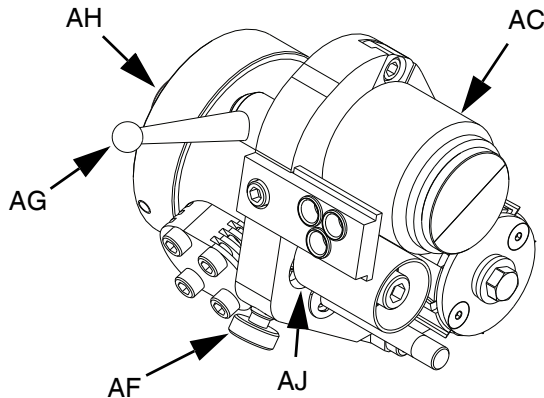

FIG. 4
4. With the trigger lock engaged, rotate the cutter motor (AH) clockwise to decrease speed. See FIG. 4. If necessary, rotate counter-clockwise to increase speed.
3. With the trigger lock engaged, rotate the cutter motor (AH): clockwise to decrease speed, counter-clockwise to increase speed. See FIG. 4.
2. Disengage the tension lockdown (AG) by pushing towards the front of the gun.
3. Turn the tension knob (AF) on the cutter: counter-clockwise to increase tension, clockwise to decrease tension. See FIG. 4.
To adjust the anvil (AC) to idler (AJ) tension, the idler position can be adjusted. See FIG. 4 on page 7.